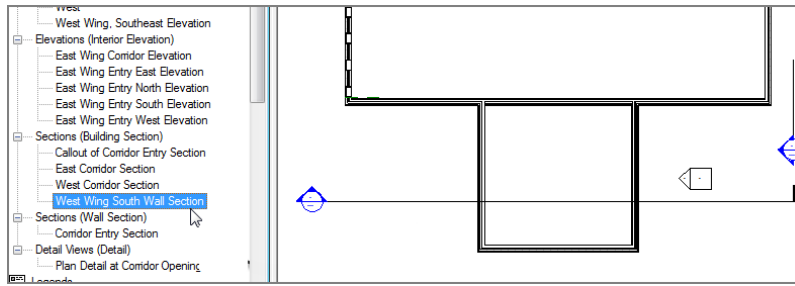

FIGURE 4.35: Open the section called West Wing South Wall Section.
1. In the Project Browser, open the Sections (Building Section) called West Wing South Wall Section, as shown in Figure 4.35.